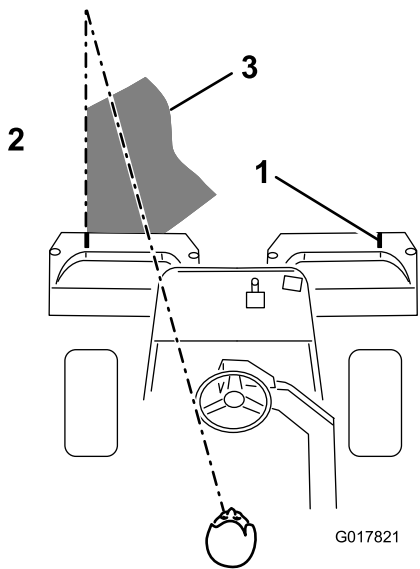

Figure 41
3. Overlap a minimal amount with the previous cut on return passes. To assist in maintaining a straight line across the green and keep the machine an equal distance from the edge of the previous cut, establish an imaginary sight line approximately 1.8 to 3 m (6 to 10 ft) ahead of the machine to the edge of the uncut portion of the green (Figure 41). Some find it useful to include the outer edge of the steering wheel as part of the sight line; i.e. keep the steering wheel edge aligned with a point that is always kept the same distance away from the front of the machine (Figure 41).